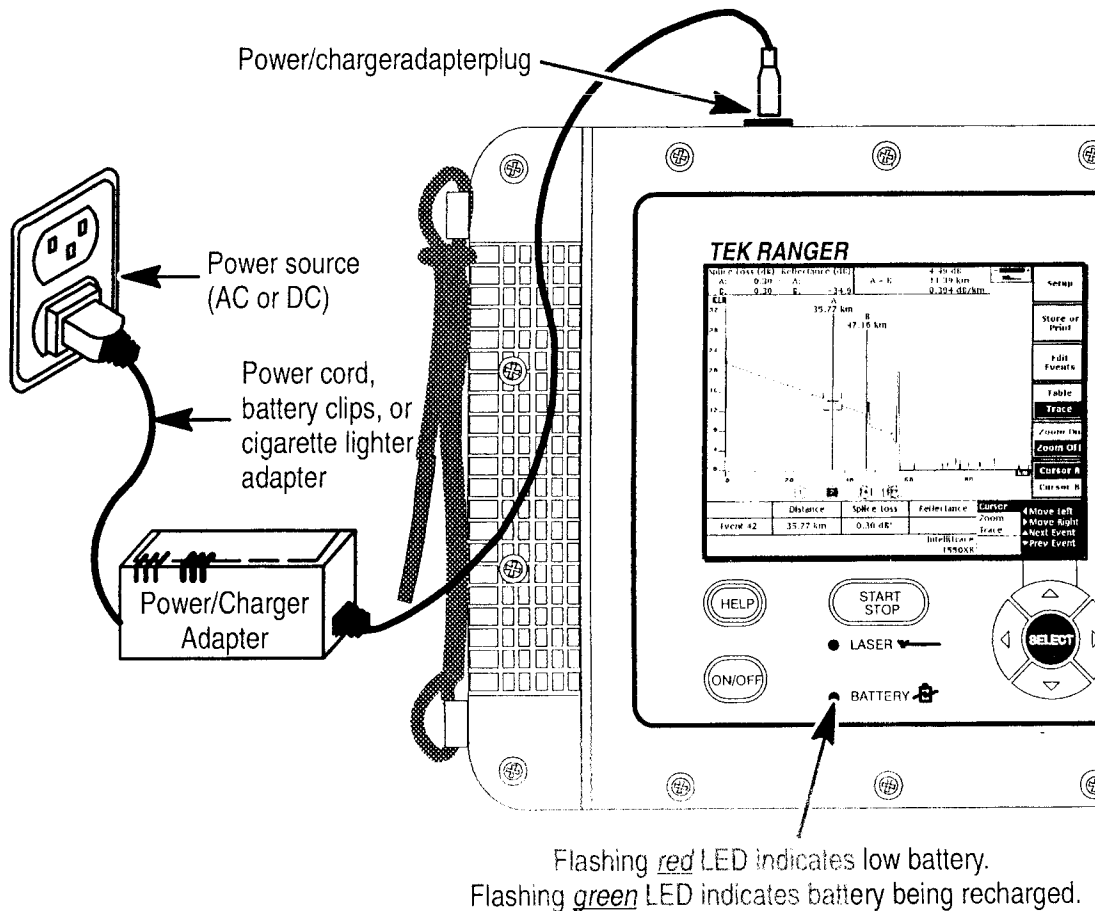

Figure 3–1: Typical NiCad Battery Recharging Setup
To recharge the NiCad battery, plug the power/charger adapter into the port on the top of the TFS3031, and into an appropriate active power source (see Figure 3–1).
- Step 2.** Loosen the six screws that hold the battery compartment cover in place on the back of the instrument (see Figure 3–2 on page 3–6). The screws are captive to prevent loss.